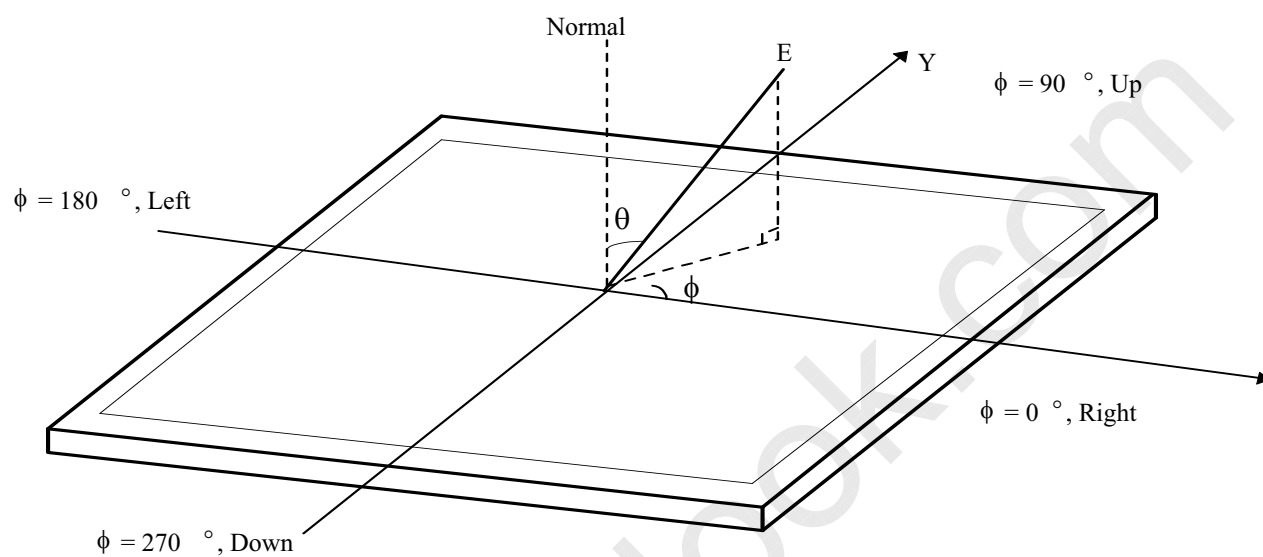

FIG.12 Viewing Angle
- Response time is the time required for the display to transit from G(255) to G(0) (Rise Time, Tr_R) and from G(0) to G(255) (Decay Time, Tr_D).
- Viewing angle is the angle at which the contrast ratio is greater than 10. The angles are determined for the horizontal or x axis and the vertical or y axis with respect to the z axis which is normal to the LCD module surface. For more information, see the FIG. 12.